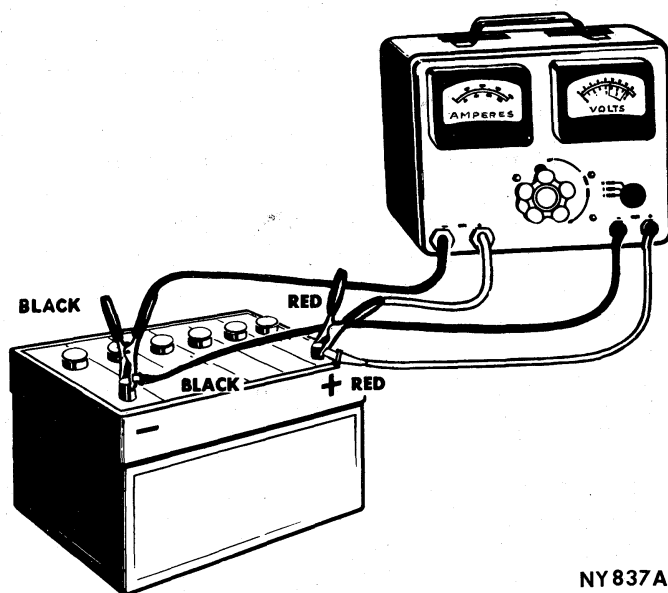

Fig. 5—High Rate Discharge Test
(1) Turn control knob of Battery-Starter-Tester to OFF position.
(2) Turn Voltmeter Selector Switch to the 16 Volt position on test units so equipped.
(3) Connect test ammeter and voltmeter positive leads to battery positive terminal. Connect ammeter and voltmeter negative leads to battery negative terminal (Fig. 5). Voltmeter clips must contact battery posts or cable clamps and not ammeter lead clips.
(4) Turn control knob clockwise until ammeter reading is equal to three times ampere hour rating of battery.
(5) Maintain the load for 15 seconds and note reading of the voltmeter.